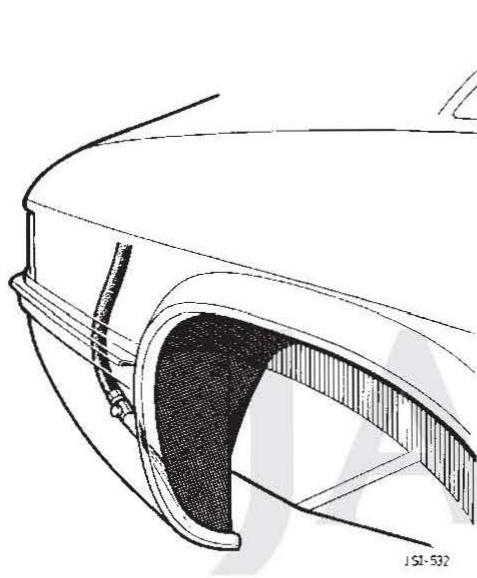

FIG 1
- a) Test for leaks using compressed air, Fig 1.